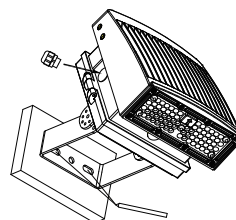

Figure 5
1. Put the bracket on the wall, draw a point with a pencil or hard project through the bracket hole. Install the water joint on the wiring hole. (See figure 5)